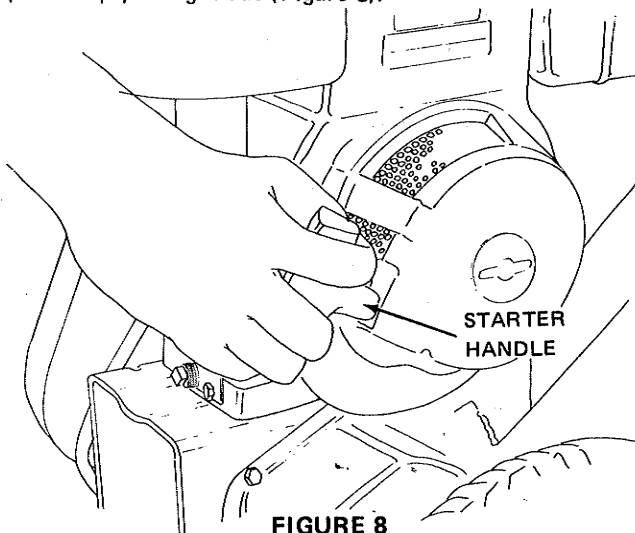

FIGURE 8
3. Grasp recoil starter handle firmly in your right hand and pull sharply straight out (Figure 8).